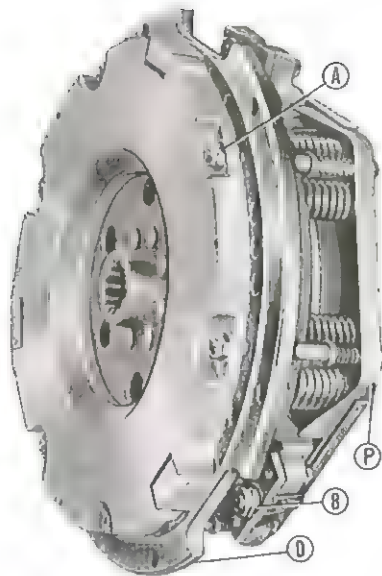
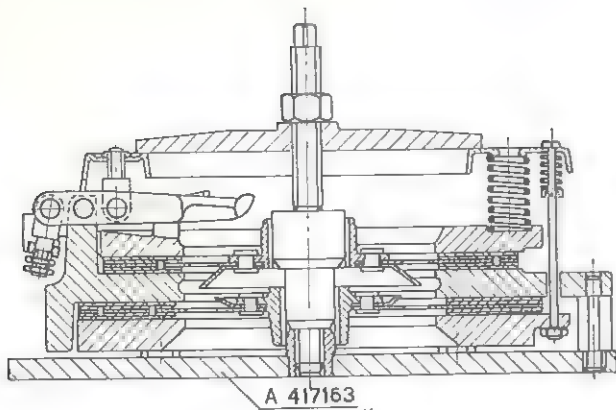

Fig. 35. - Engine clutch assembly.
Fig. 37. - Disassembly and reassembly of the clutch on fixture A 417163.
1. Engaged clutch clearance of 0.051" to 0.067" (1.3-1.7 mm) to be checked when adjusting the pedal free travel - 2. Hollow shaft housing the P.T.-O. drive shaft - 3. Transmission shaft from clutch to gearbox - 4. P.T.-O. or belt-pulley drive shaft - 5. P.T.-O. drive shaft driving gear - 6. Clutch throw-out collar control yoke - F. Distance between clutch disc and release lever ends: 2.638" to 2.685" (67 to 67.7 mm) - H. Distance between clutch fixed plate and lever supporting plate: 3.366" to 3.405" (85.5 to 86.5 mm) (to be considered for clutch reassembly). By using fixture A 417163 as shown in fig. 37, said dimension is automatically assured - S. Clutch springs - L. Clutch release levers - A.B.D.P. See fig. 35.